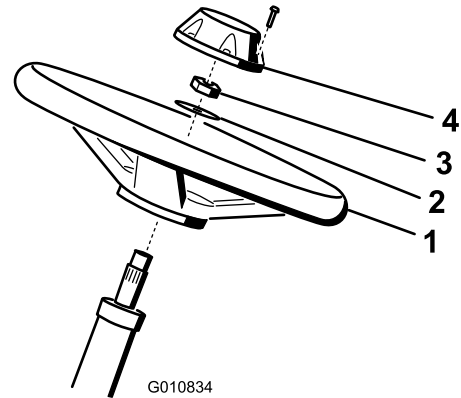

Figure 6
- Slide the steering wheel onto the steering shaft (Figure 6).
- Slide the washer onto the steering shaft (Figure 6).
- Secure the steering wheel to the shaft with a locknut and tighten it to 27 to 35 N·m (20 to 26 ft-lb) (Figure 6).
- Install the cap to the steering wheel and secure it with 6 bolts (Figure 6).